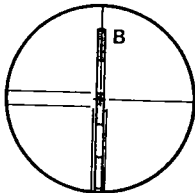

Fig. 23
- e. Loosen the horizontal clamp ② . Introduce the target B into the field of view and tighten the horizontal clamp. Sight the target B with the horizontal fine motion ④ , Fig. 23.